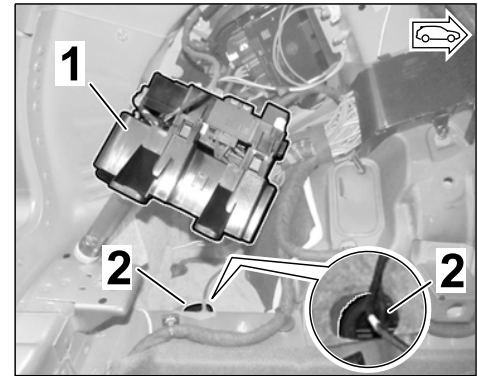

Figure 20
3.3.1 Loosen the fuse box with the holder in the luggage compartment, rear left, and turn it aside (\Rightarrow *Figure 20*, \Rightarrow *Workshop Manual '978409 fuse box in the luggage compartment*).